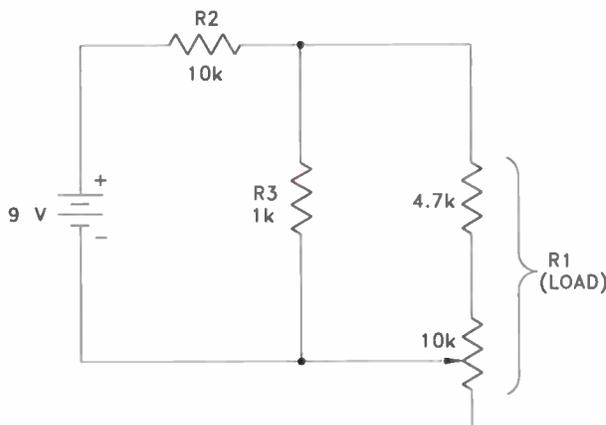
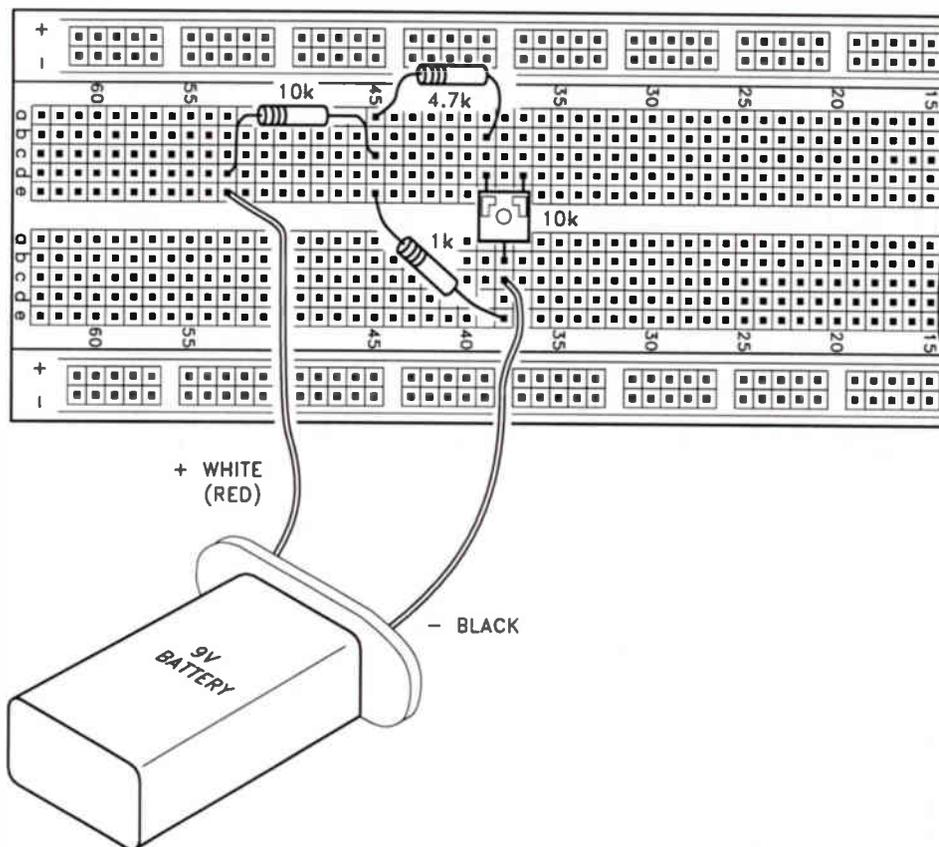

Figure 5-1. A schematic of the circuit for Step 1.
Figure 5-2. Layout of the circuit for Step 1.
**Step 1.** Build the circuit shown in Figure 5-1. A pictorial layout of this circuit is shown in Figure 5-2, on the next page. Use the jumper cables supplied with this kit so that you can clip both leads of the meter to the circuit under test. Also make sure that the red test lead of your DMM is connected to the V jack. You are now ready to see how the circuit works.
**Step 2.** Measure the load voltage in Figure 5-1 by clipping the black lead from the DMM
to the negative lead of the battery and the red lead to the junction of the 4.7k resistor and the 10k resistor (R2). The meter is now connected across the 4.7k resistor and part of the 10k potentiometer. These two parts make up the load resistor, R1, in Figure 5-1.